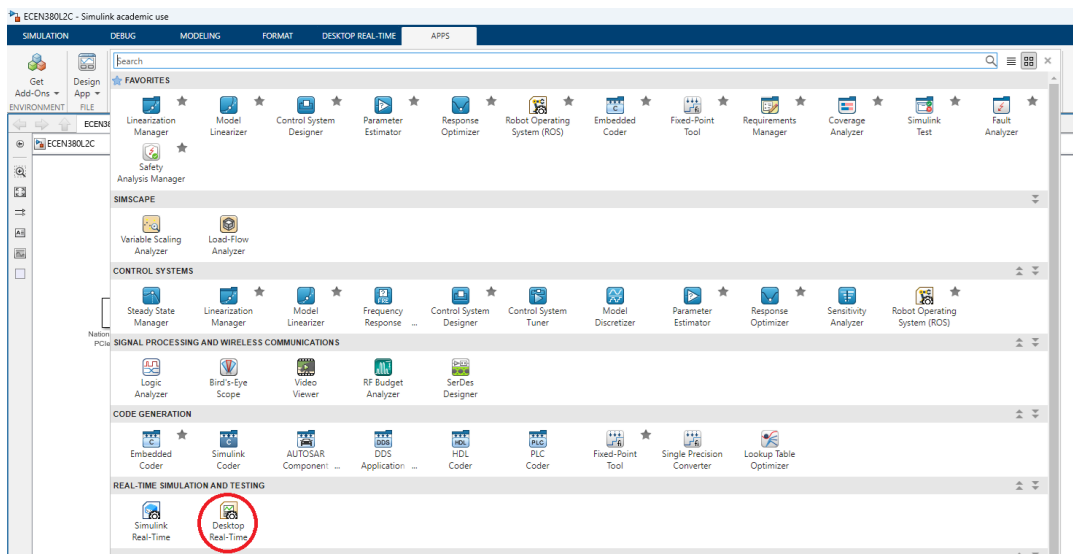

Figure 13 – Desktop Real-Time App
17. Click on the 'Apps' tab, and under the 'Apps' expandable toolbar, look for the `Real-Time Simulation and Testing` section, and click on `Desktop Real-Time` (see Figure 13); alternatively, you can search for the term "Desktop Real-Time", and click on the result. This should create a new tab with the same name.